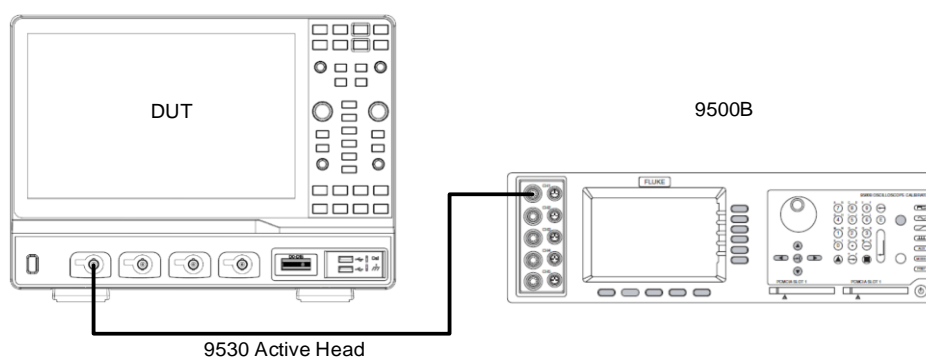

Figure 7 Test setup for DCG / Offset / Timebase...
Note: The 9530 active head in Figure 7 is connected to any channel of the 9500B, and its BNC connector is connected to the specified channel of the oscilloscope according to the test.
2. Connect a selected channel of the oscilloscope to the 9500B with an active head as shown in Figure 7.